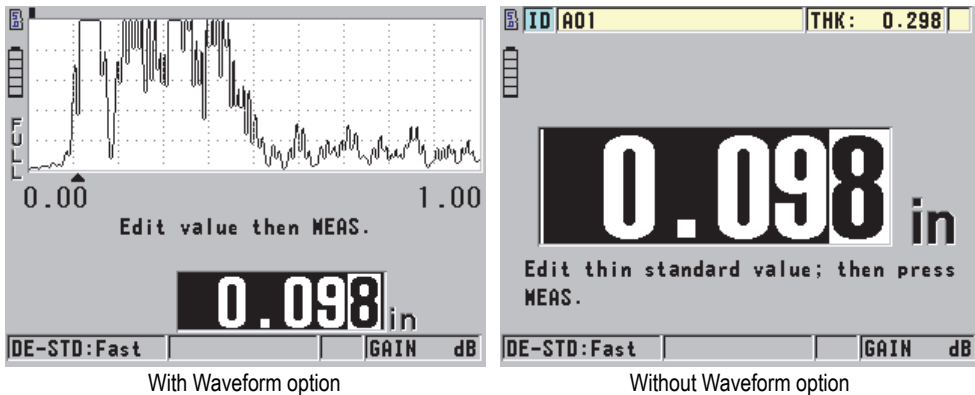

**Figure 5-5 Performing the sound velocity calibration on a five-step test block**
1. To perform the material sound velocity calibration using an instrument with or without the Waveform software option (see Figure 5-5 on page 56):